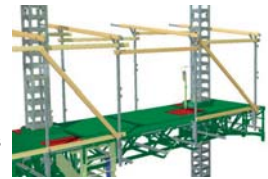

Fig. 7.49
- 3- It is **mandatory** to install a diagonal brace every two bays. A bay could be left opened if there is diagonal bracing on both sides of the opening (fig. 7.49).